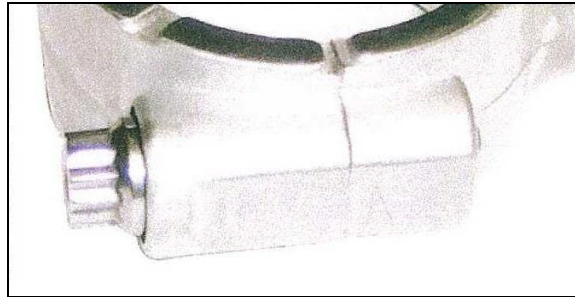
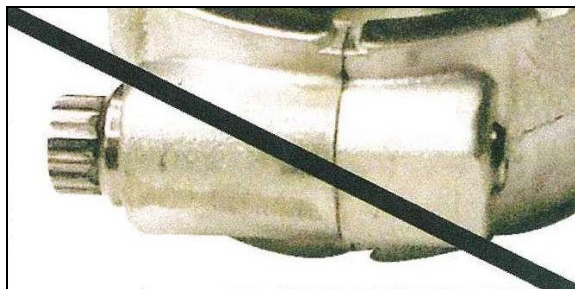

Fig. 10 Correct Connecting Rod Pairing
Fig. 11 Incorrect Connecting Rod Pairing
***Make sure the flat sides numbers are matched up together on the Connecting Rods (10) (like figure 10 not figure 11).